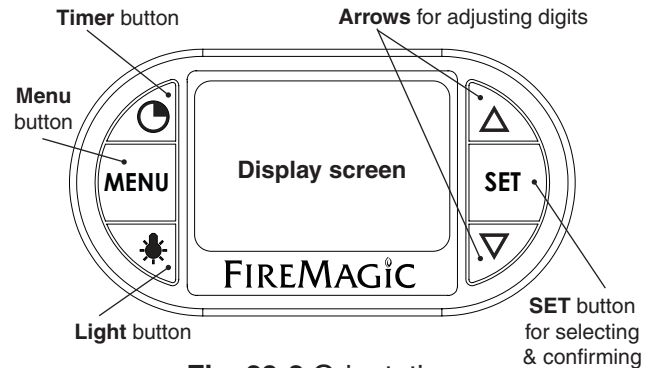

Fig. 29-2 Orientation
Read the following sections completely regarding thermometer operation. Refer to Fig. 29-2 for thermometer orientation and button locations.
1. Press the light button to turn both the interior oven lights and knob backlights ON (see Fig. 29-2). The interior oven lights will remain ON when the hood is closed (for use of the Magic View window).